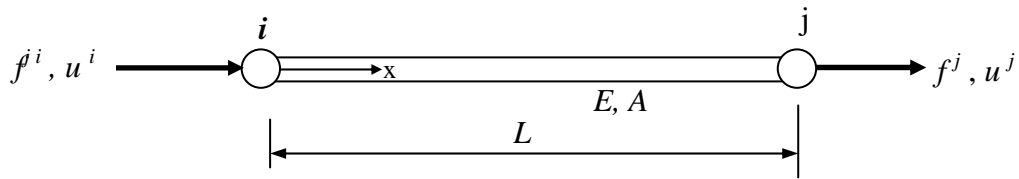

Figure 4
- c) Figure 4 shows an axially loaded bar element where f^i, f^j : nodal forces at node i and node j , respectively, E : modulus of elasticity of the bar material, A : cross-sectional area of the bar, L : original length of the bar and u^i, u^j : nodal displacement of node i and node j , respectively. Derive the element stiffness matrix using the finite element displacement approach. Show also the relation for evaluating the element stress and give explanation why it is constant for the basic bar element shown in Figure 4.